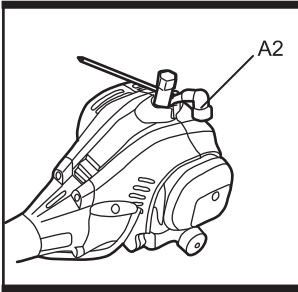

Fig. 20a
2. Unplug the spark plug connector (A2). Loosen the spark plug with the socket wrench (D1) anticlockwise and carefully remove it. (See Fig. 20a)